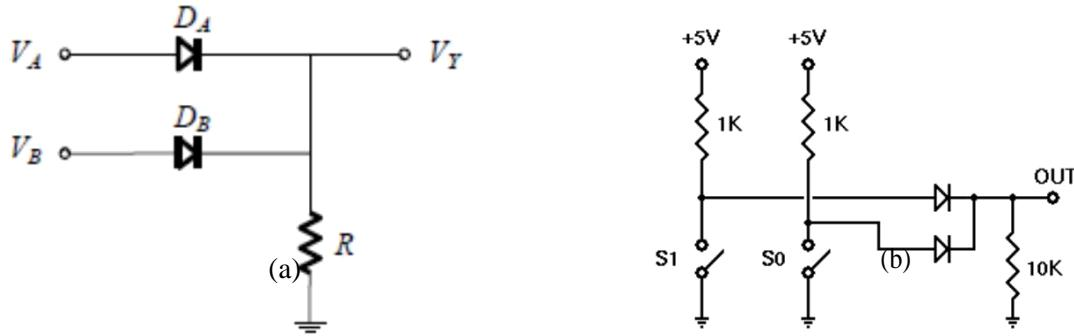

Fig.1 DL-OR Gate
1. Construct the DL-OR gate on your breadboard as shown in Fig. 1. Then draw a Truth Table similar to the one provided and fill in your experimental results.